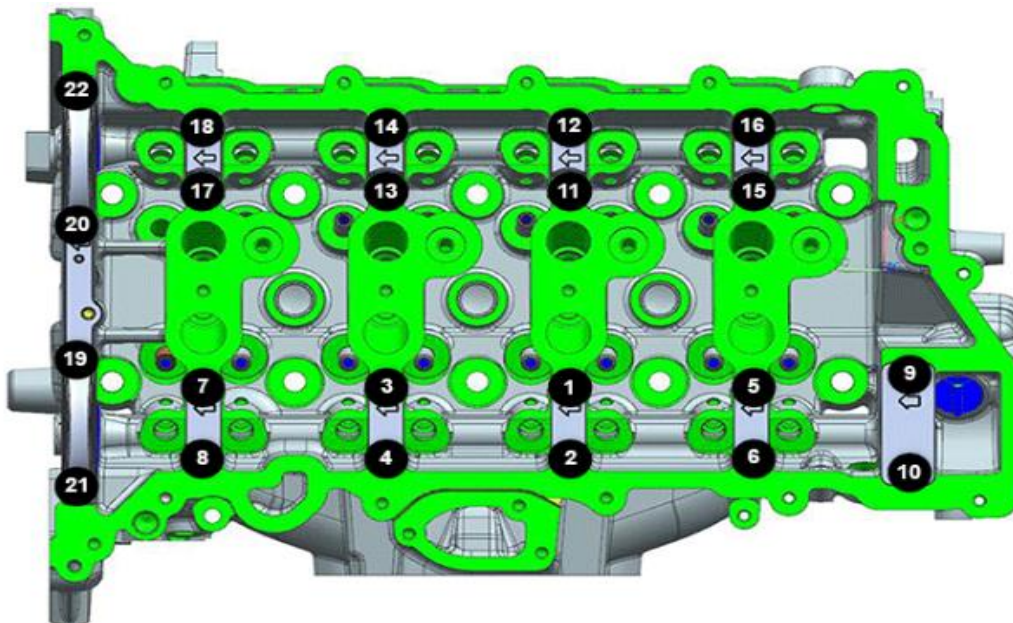

Figure 29 – Torque Sequence
75. Tighten the camshaft cap bolts in the sequence shown on the illustration to 10 N·m (89 In. lbs.) (Figure 29).